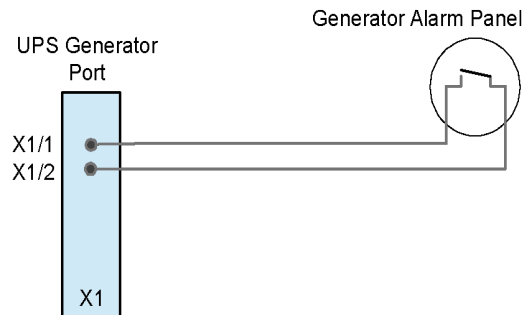

Figure 8.3 Generator ON Connection
2. Connect the cable as shown in Figure 8.3.